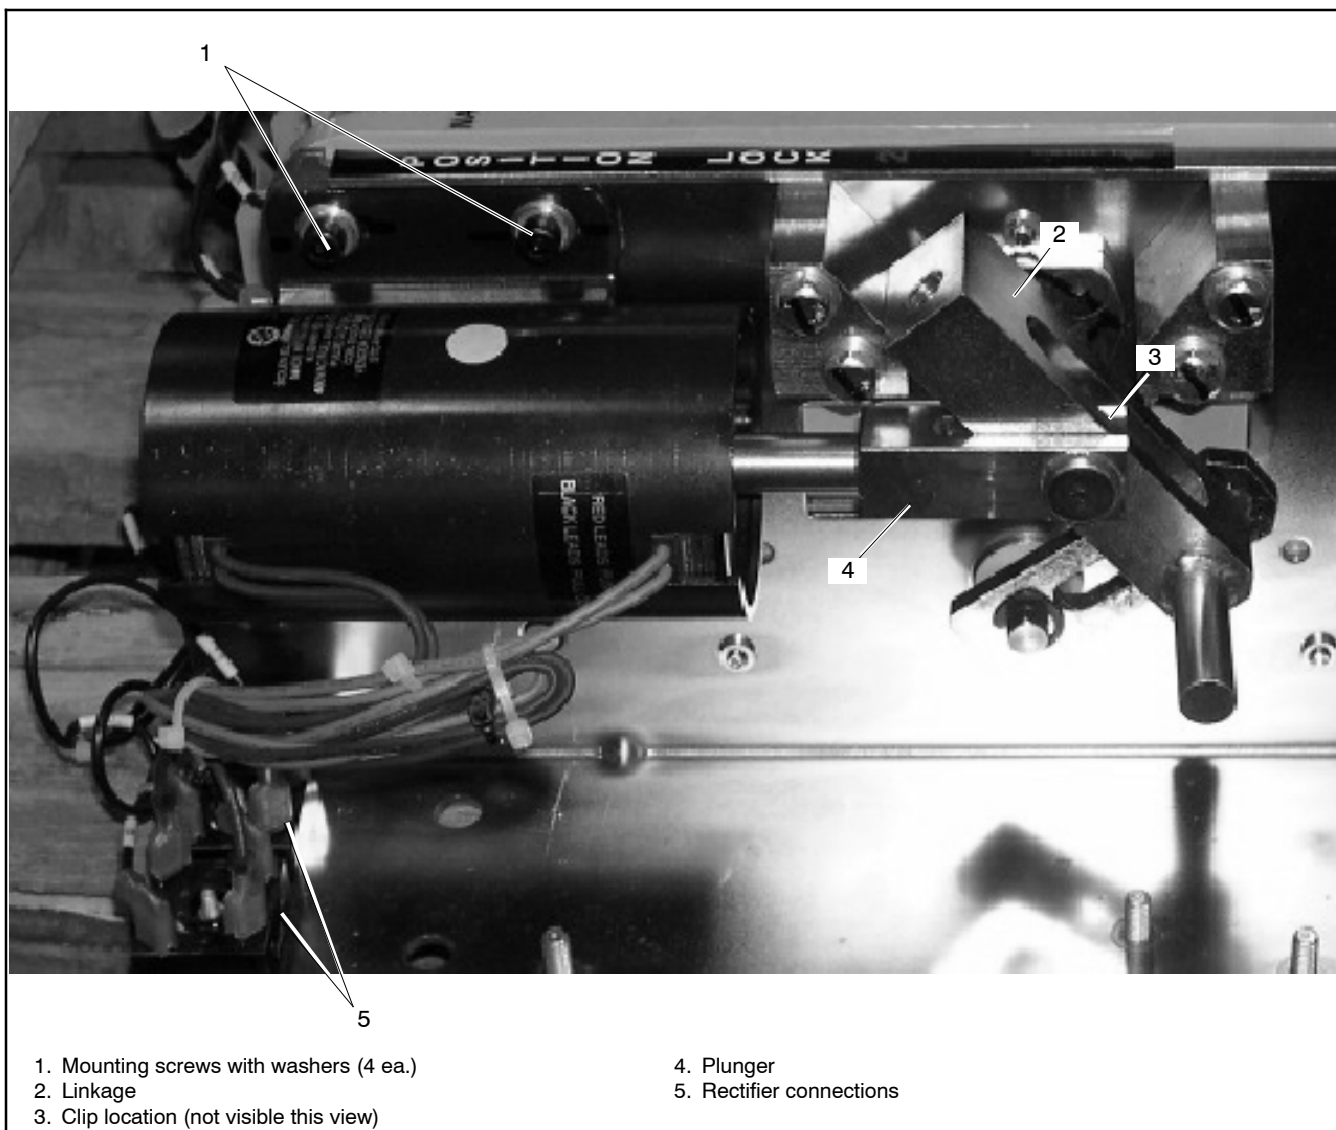

Figure 7-22 Solenoid Assembly (shown on the bench)
10. Note the rectifier connections and disconnect the AC leads. See Figure 7-22.
14. Hold the solenoid coil firmly and remove the four screws and washers. See Figure 7-22.
18. Place the new solenoid assembly into position, aligning the linkage pins with the mechanism slots. See Figure 7-22.